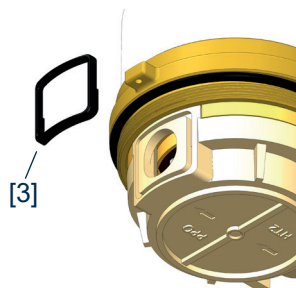

Fig. 5
- 2.11. Check that the moulded seal [3] is correctly seated in the groove provided on the outlet side (Fig. 5). Correct if necessary